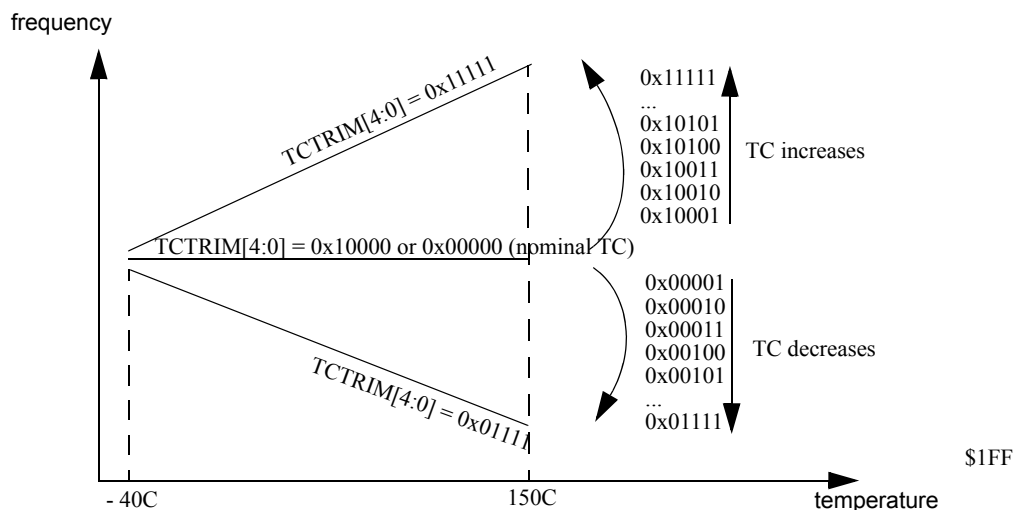

Figure 88. Influence of TCTRIM[4:0] on the Temperature Coefficient
15-11 TCTRIM	<p>IRC1M temperature coefficient Trim Bits Trim bits for the Temperature Coefficient (TC) of the IRC1M frequency. Figure 88 shows the influence of the bits TCTRIM4:0 on the relationship between frequency and temperature. Figure 88 shows an approximate TC variation, relative to the nominal TC of the IRC1M (i.e. for TCTRIM[4:0]=0x00000 or 0x10000).</p>